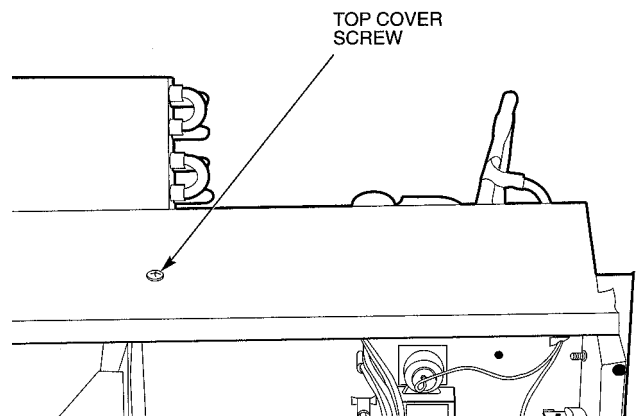

FIGURE 16 — TOP COVER SCREW
■ **TO REMOVE THE TOP COVER** — Remove the screw located in the middle of the top cover and remove the cover. See Figure 16.